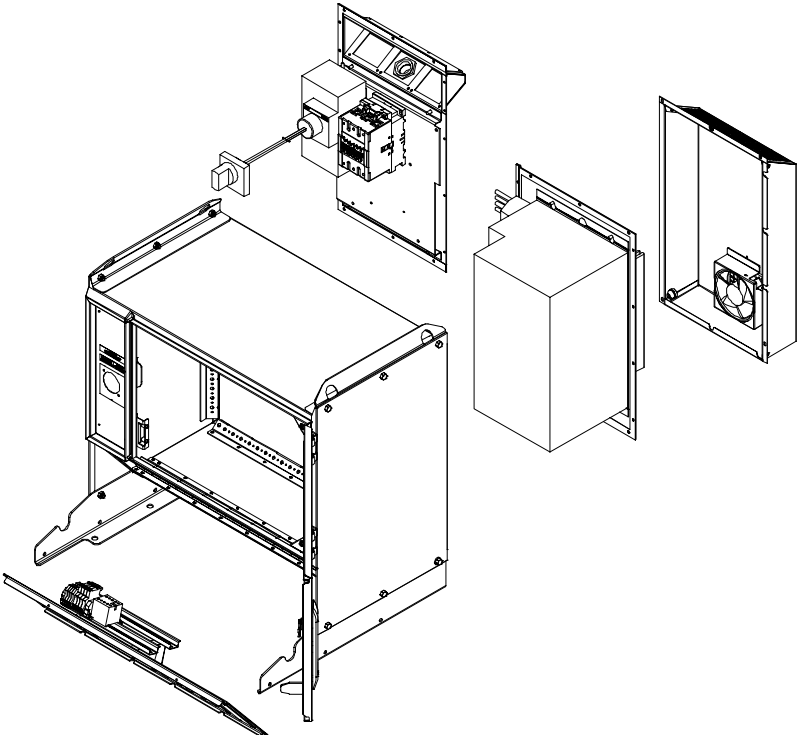

Figure 104 Exploded view drawing of the SpotWelding cabinet.
- Modular built for easy repair and installation (see Figure 104 below)